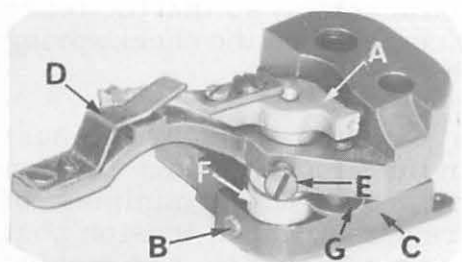

Fig. 29
1. There should be no bind or shank in lower knife pivot carrier (A, Fig. 29). This adjustment can be made by loosening screw (B) on the pivot release lever (C) and taking up the excessive end play or relieving the bind as the case may be.
Adjust lower knife until it just contacts the upper knife. To adjust the lower knife turn flange screw (G, Fig. 29) clockwise to lower knife and counterclockwise to raise it.